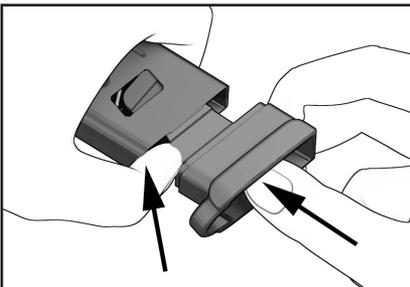

Figure 35
5. On 10-round magazines, push the floorplate up onto the base of the magazine housing until the locking tabs engage in the sides of the housing. (Figure 35)